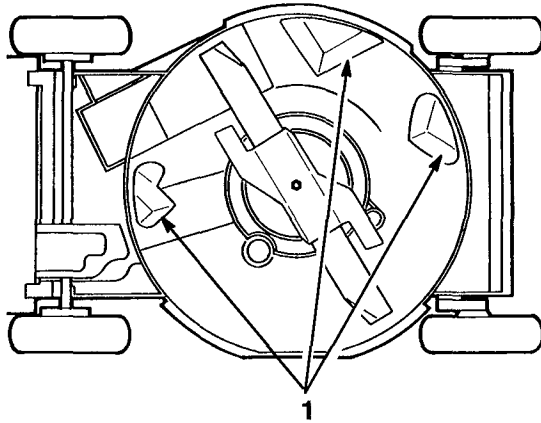

Figure 28
To ensure best performance, keep underside of mower housing clean. Be especially careful to keep kickers free of debris (Fig. 28).
3. Tip mower on its left side (Fig. 28).